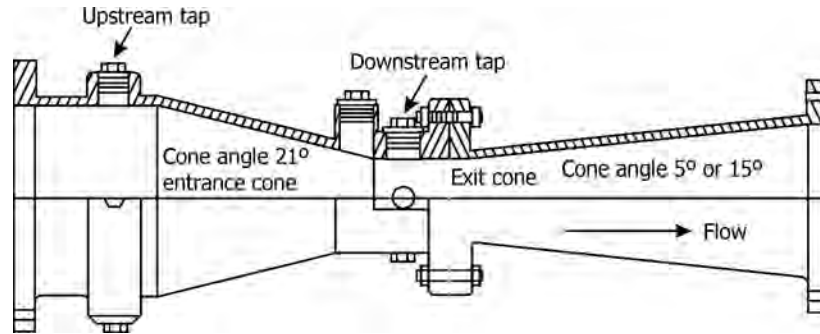

FIGURE 4.10 Venturi meter.
- Figure 4.10 gives the constructional details of a venturi meter.